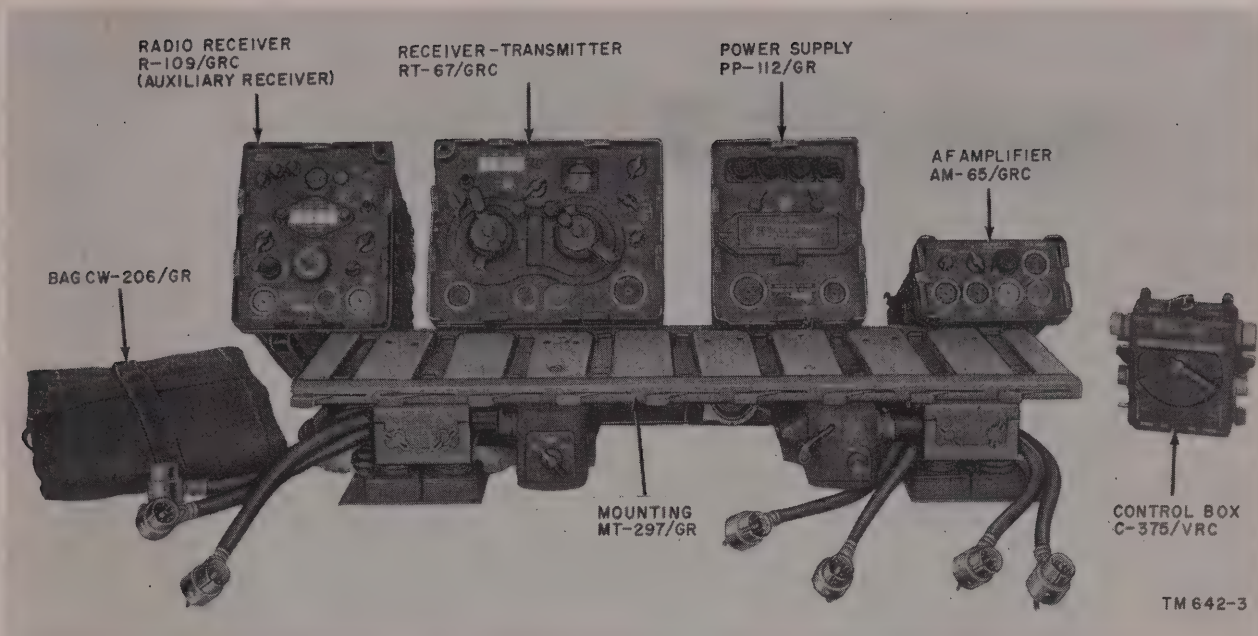

Figure 3. Components of Radio Set AN/VRC-21.
*a. Introduction.* The three radio sets have the following items in common: a receiver-transmitter, a receiver, an interphone amplifier, suitable power supplies, a mounting, a control unit, suitable antenna systems, and interconnecting cables. Radio Set AN/VRC-20 (fig. 3) described in *b* below is typical of all the sets discussed in this manual. The nomenclature outlined in paragraph 2, the table of components (par. 6), and figure 27 all indicate the differences between the three radio sets.